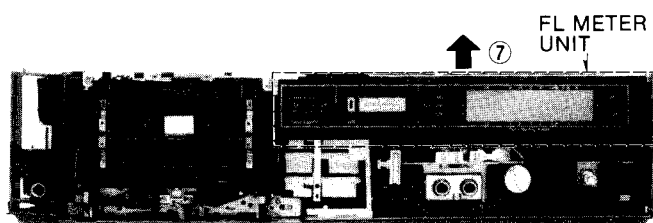
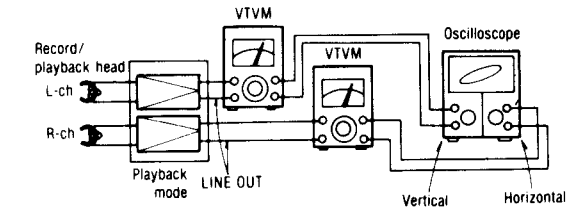
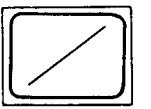

Fig. 4
Fig. 6
Fig. 7
<p>L-CH/R-CH output balance adjustment</p> <ol style="list-style-type: none"> 1. Make connections as shown in fig. 3. 2. Playback the 8kHz signal from the test tape (QZZCFM). Adjust screw (B) in fig. 4 for maximum output L-CH and R-CH levels. When the output levels of L-CH and R-CH are not at maximum at the same point adjust as follows. 3. Turn screw (B) shown in fig. 4 to find angles A and C (points where peak output levels for left and right channels are obtained). Then, locate angle B between angles A and C, i.e., and point where L-CH and R-CH outputs are balanced. (Refer to figs. 4 and 5.) <p>L-CH/R-CH phase adjustment</p> <ol style="list-style-type: none"> 4. Make connections as shown in fig. 6. 5. Playback the 8kHz signal from the test tape (QZZCFM). Adjust screw (B) shown in fig. 4 so that pointers of the two VTVMs swing to maximum and a lissajous waveform as illustrated in fig. 7 is obtained on the oscilloscope.
<p>Fig. 3</p> <p>Fig. 4</p>